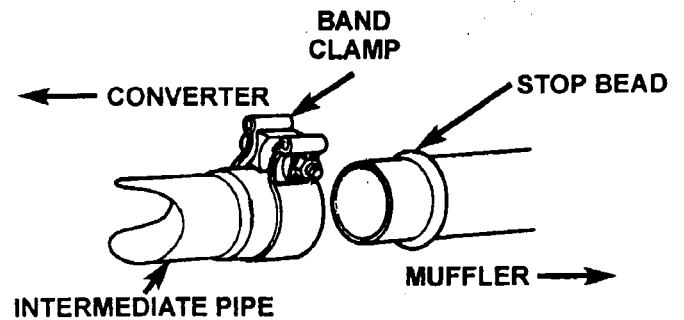

Figure 12
1. Loosen the right and left side exhaust band clamps (Figure 12).